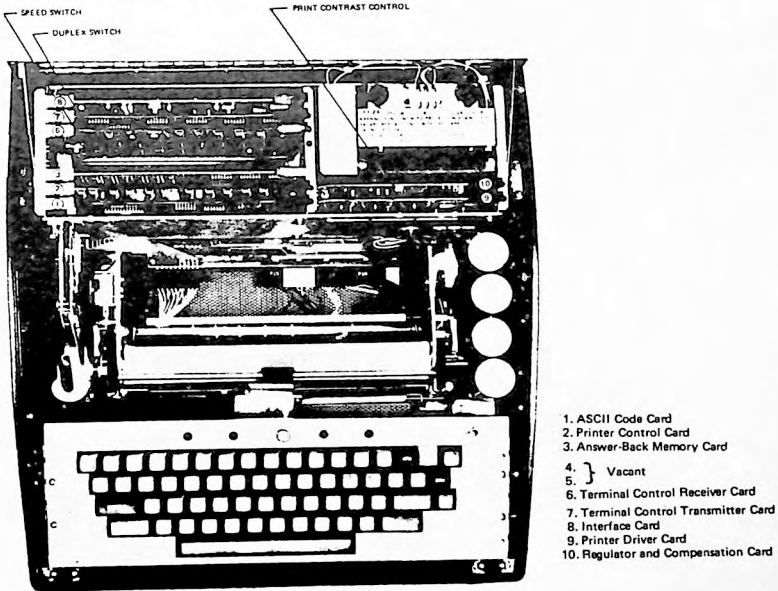

Figure 1. 720C Data Terminal
1.1.2 The Model 720C Electronic Data Terminal is an input/output data terminal utilizing the electronic printer technology. (Ref. Fig. 1)
- 2.4 Indicator Lamps. The terminal has five indicator lamps arranged as shown in Fig. 1. The lamps, from left to right are as follows: